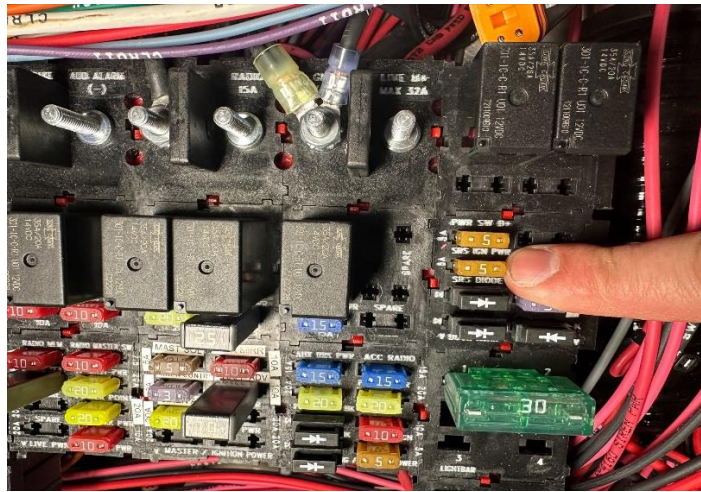

Figure 2.1
- 1) Locate fuse panel in center dash. Find SRS IGN PWR fuse and remove fuse. See Figure 2.1 and 2.2 below.